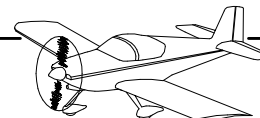

**FIGURE 3: JOIN FIREWALL AND MUFFLER ASSEMBLIES
Step 6: Rivet the F-01451-L & -R Tunnel Sides to the F-01483-L & -R Forward Bottom Skins as shown in Figure 3. **DO NOT** rivet the aft-most hole in the tunnel sides.
Step 7: Rivet the F-01435-L & -R Cover Bases to the F-01451-L & -R Tunnel Sides and F-01454 Muffler Shroud Ramp as shown in Figure 3.
Step 8: Rivet the F-01451-L & -R Tunnel Sides to the F-01454 Muffler Shroud Ramp as shown in Figure 3.